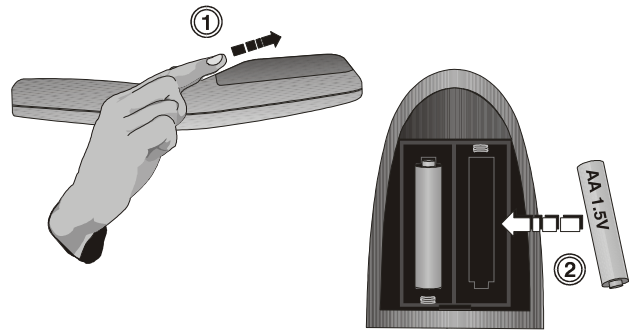

Figure 4-1 Replacing Batteries
1. Open the battery compartment at the backside of the remote by placing your thumb in the oval depression and sliding the cover out about ½ inch. Refer to Figure 4-1. Remove the old batteries and properly discard. Wait a minute or two.